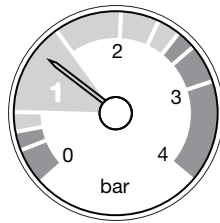

Fig. 1
2. With the system cold and the boiler not operating the pressure should be at least 0.5 bar. During operation the pressure should not exceed 2.5 bar, and will normally be between 1.0 and 2.0 (Fig. 1).
1. The normal operating water pressure is between 1 and 2.5 bar (Fig. 1). If the pressure exceeds 3 bar the safety pressure valve will operate and a fault is indicated. Contact your installer.